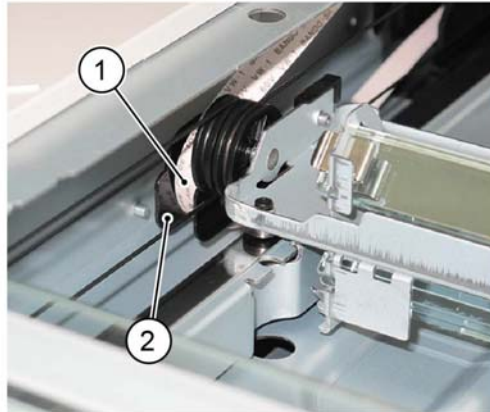

Figure 4 Harness guide
7. Disconnect the FFC LED cable assembly (1) from the half rate carriage harness guide (2), Figure 4.